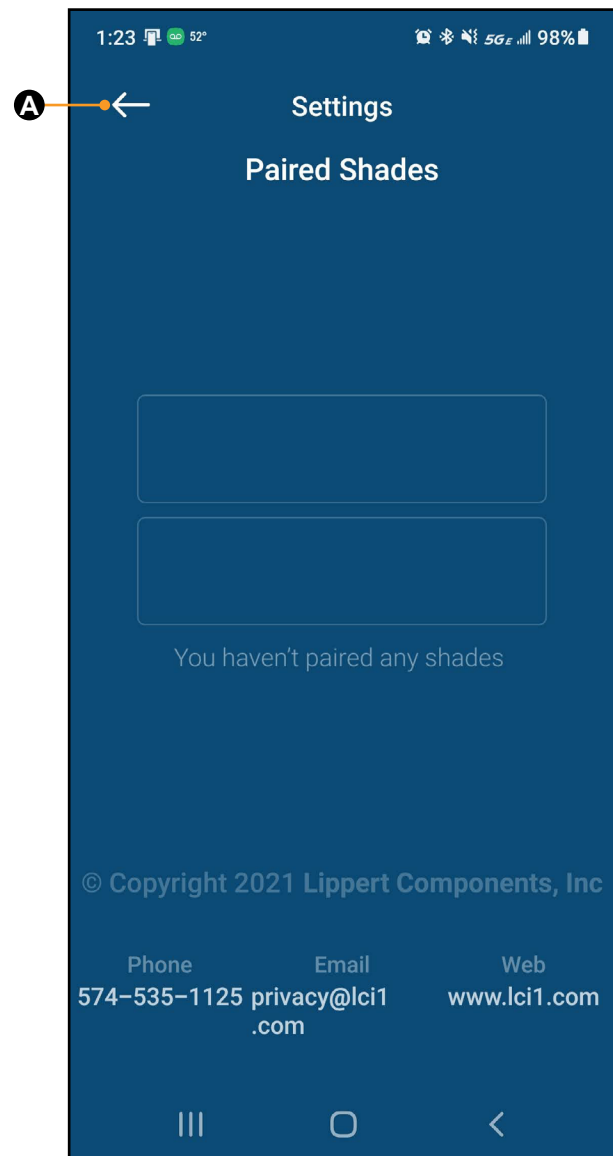

Fig.61
E. The Paired Shades screen (Fig.61) will reflect the removed shade.